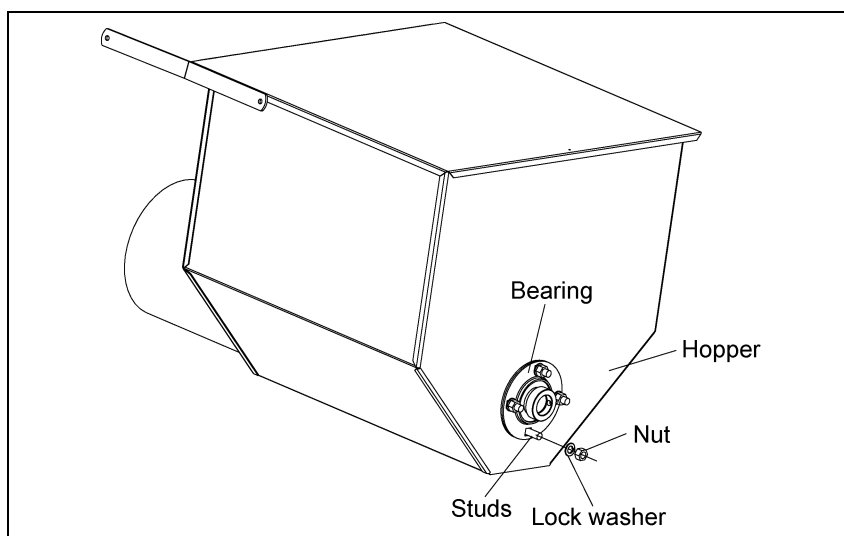

Figure 4B
- B. Next bolt the bearing with flange to the studs on the hopper using the required lock washer and nut. (See Chart below and See Figure 4B.)